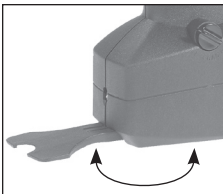

Figure 7
5. After starting, unfold stand from base and stand gun upright (Figure 7).